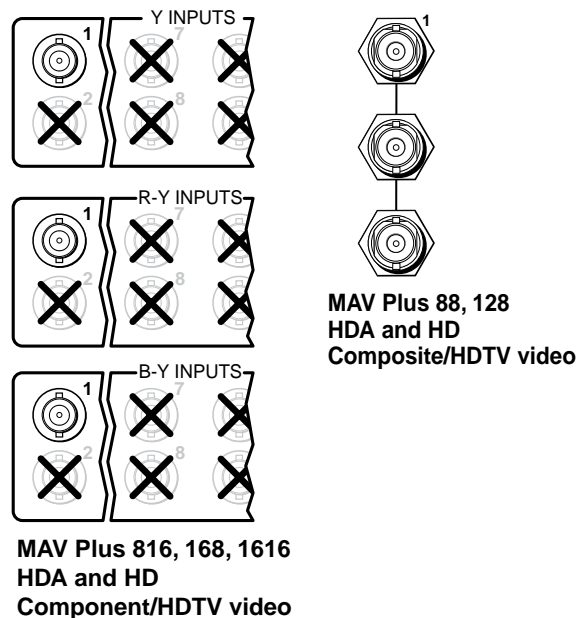
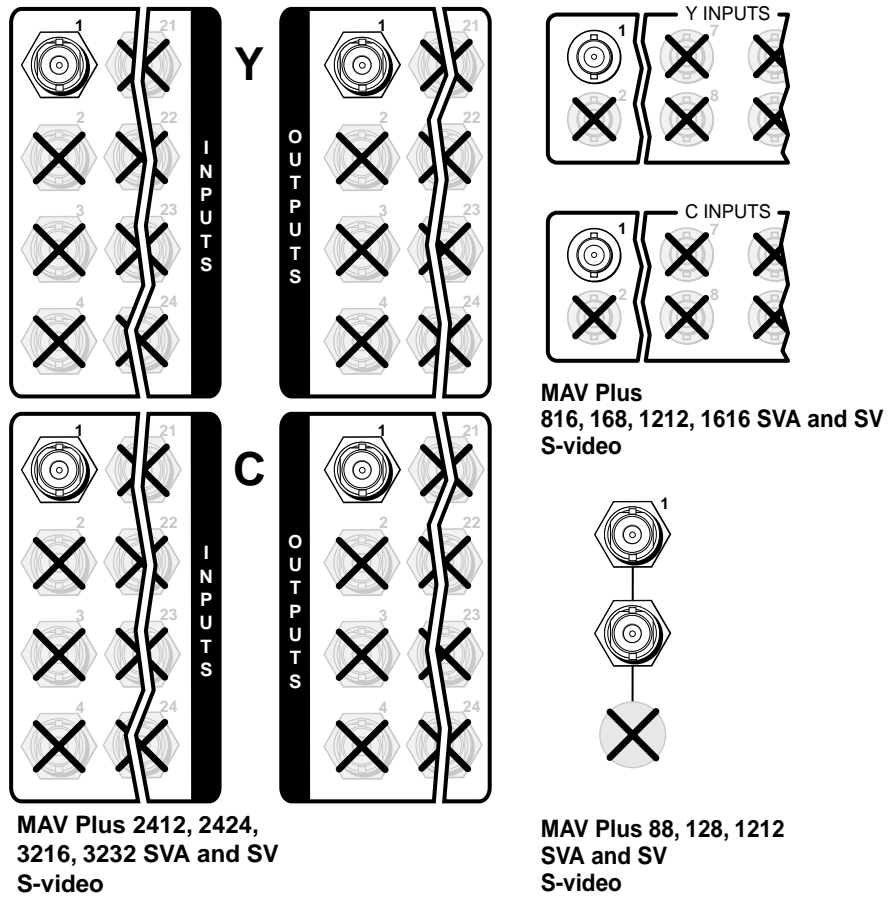
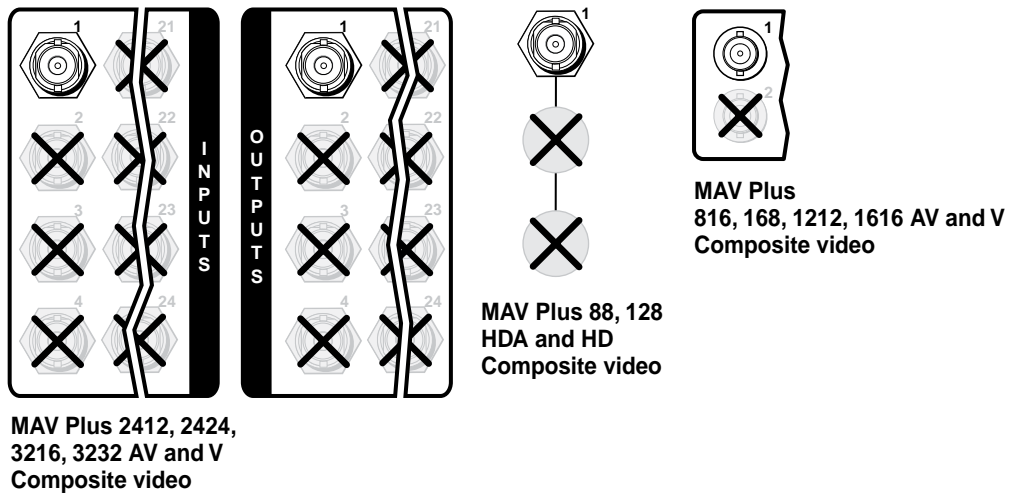

Figure 2-14 — MAV Plus component/HDTV video connections
Figure 2-15 — MAV Plus S-video connections
Figure 2-16 — MAV Plus composite video connections
NOTE The connectors for each video plane are grouped together (for example, for component/HDTV switchers, all of the Y inputs grouped together, all of the R-Y inputs grouped, and so on). Ensure that you connect the input on each video plane to the corresponding connector in the correct group (figure 2-14 through figure 2-16, below and on the next page).
- 1 **Video inputs** — Connect component/HDTV video (figure 2-14), S-video (figure 2-15), or composite video (figure 2-16) inputs, as applicable, to these BNC connectors for each input.
- 2 **Video outputs** — Connect component/HDTV video (figure 2-14), S-video (figure 2-15), or composite video (figure 2-16) displays, as applicable, or other devices to these BNC connectors for each output.
NOTE The S-video (figure 2-15) and composite video (figure 2-16) connection drawings are all on the next page.